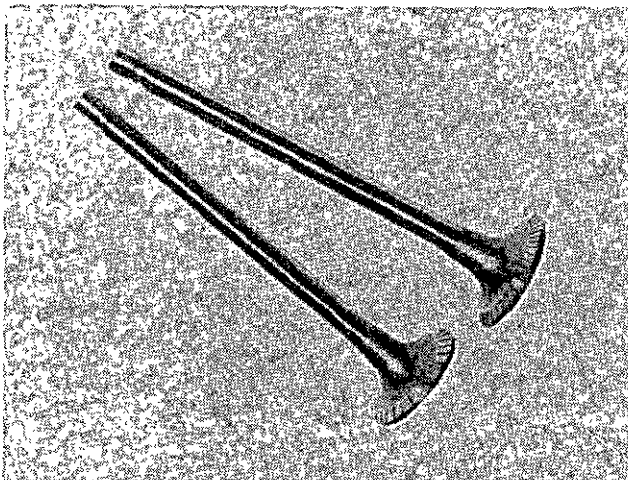

Fig. 2-15 (N20217). Put Marks On The Valve Face.
4. Make sure the valve face has the correct contact against the valve seat. Put marks on the valve face as shown in Fig. 2-15. Install the